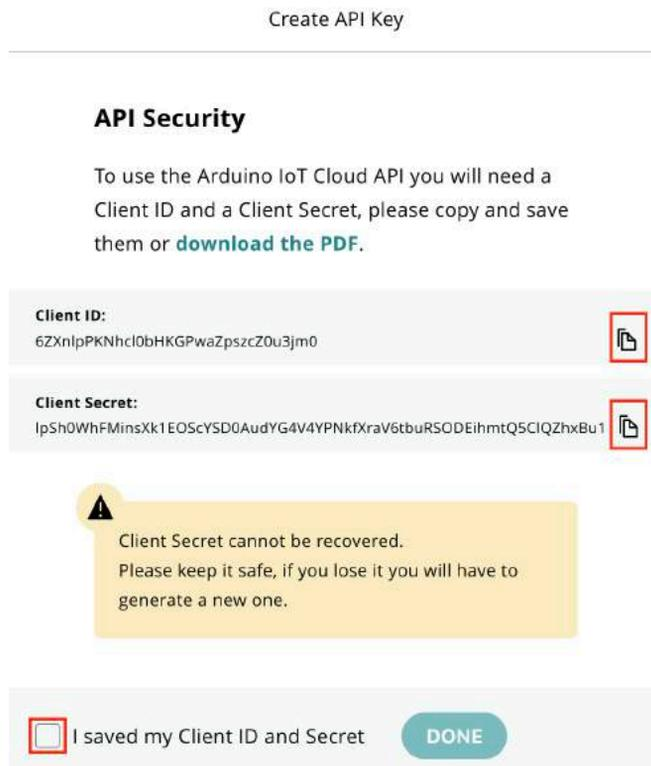

Figure 2.22 – The API keys
2. If you don't have a connection, click on the pencil icon, and it will take you to a new popup where you will need to provide the name of the connection, along with the client ID and client secret that were generated in the previous section in *Figure 2.22*. When you save the connection, it will appear under the **Connection** dropdown.